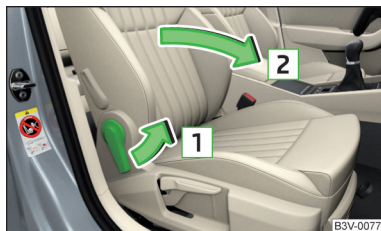

Fig. 89
- › To **fold down**, pull the lever in direction of arrow , fold the seat backrest in the direction of arrow  » Fig. 89. The locking mechanism must audibly snap into place.